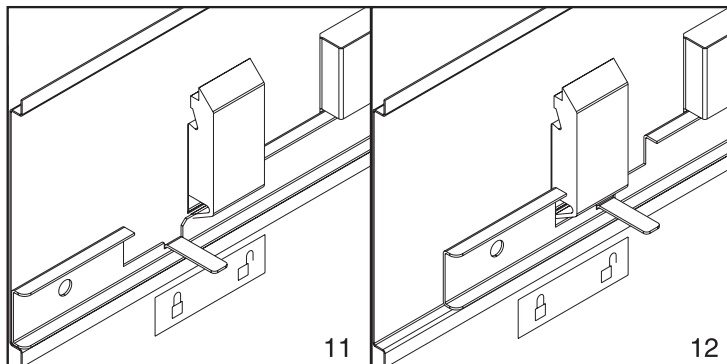

Figure 59. Placing the locked/unlocked sticker on the cover panel.
- e. Place a locked/unlocked sticker on the inside of the cover panel so that when the slide bar is in the locked position, the tab is over the locked symbol, 11, as shown in Figure 59 on page 60 and over the unlocked symbol, 12, when the slide bar is unlocked.